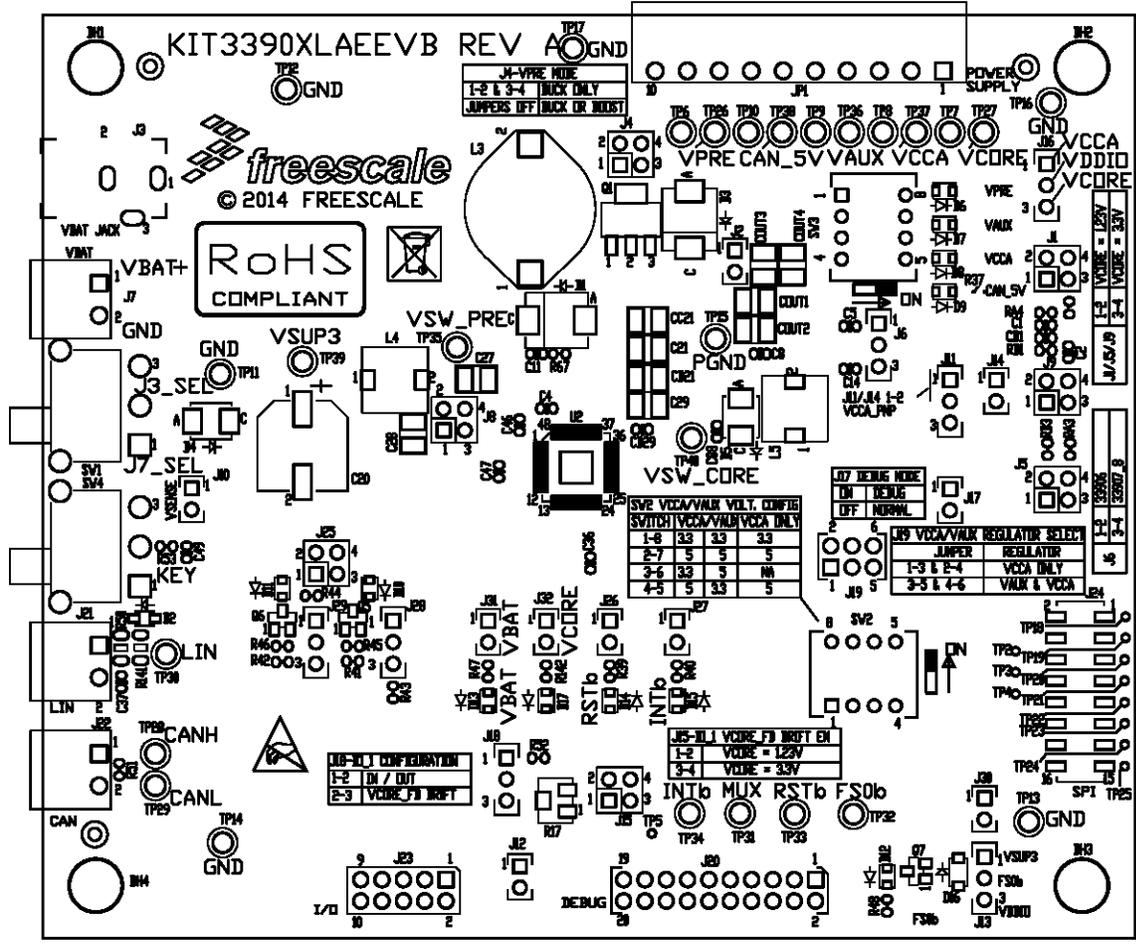

**Figure 12. MC33907\_8 GUI Register**
- In the right side of the GUI, select NOT SAFETY and send command as shown in Figure 12.